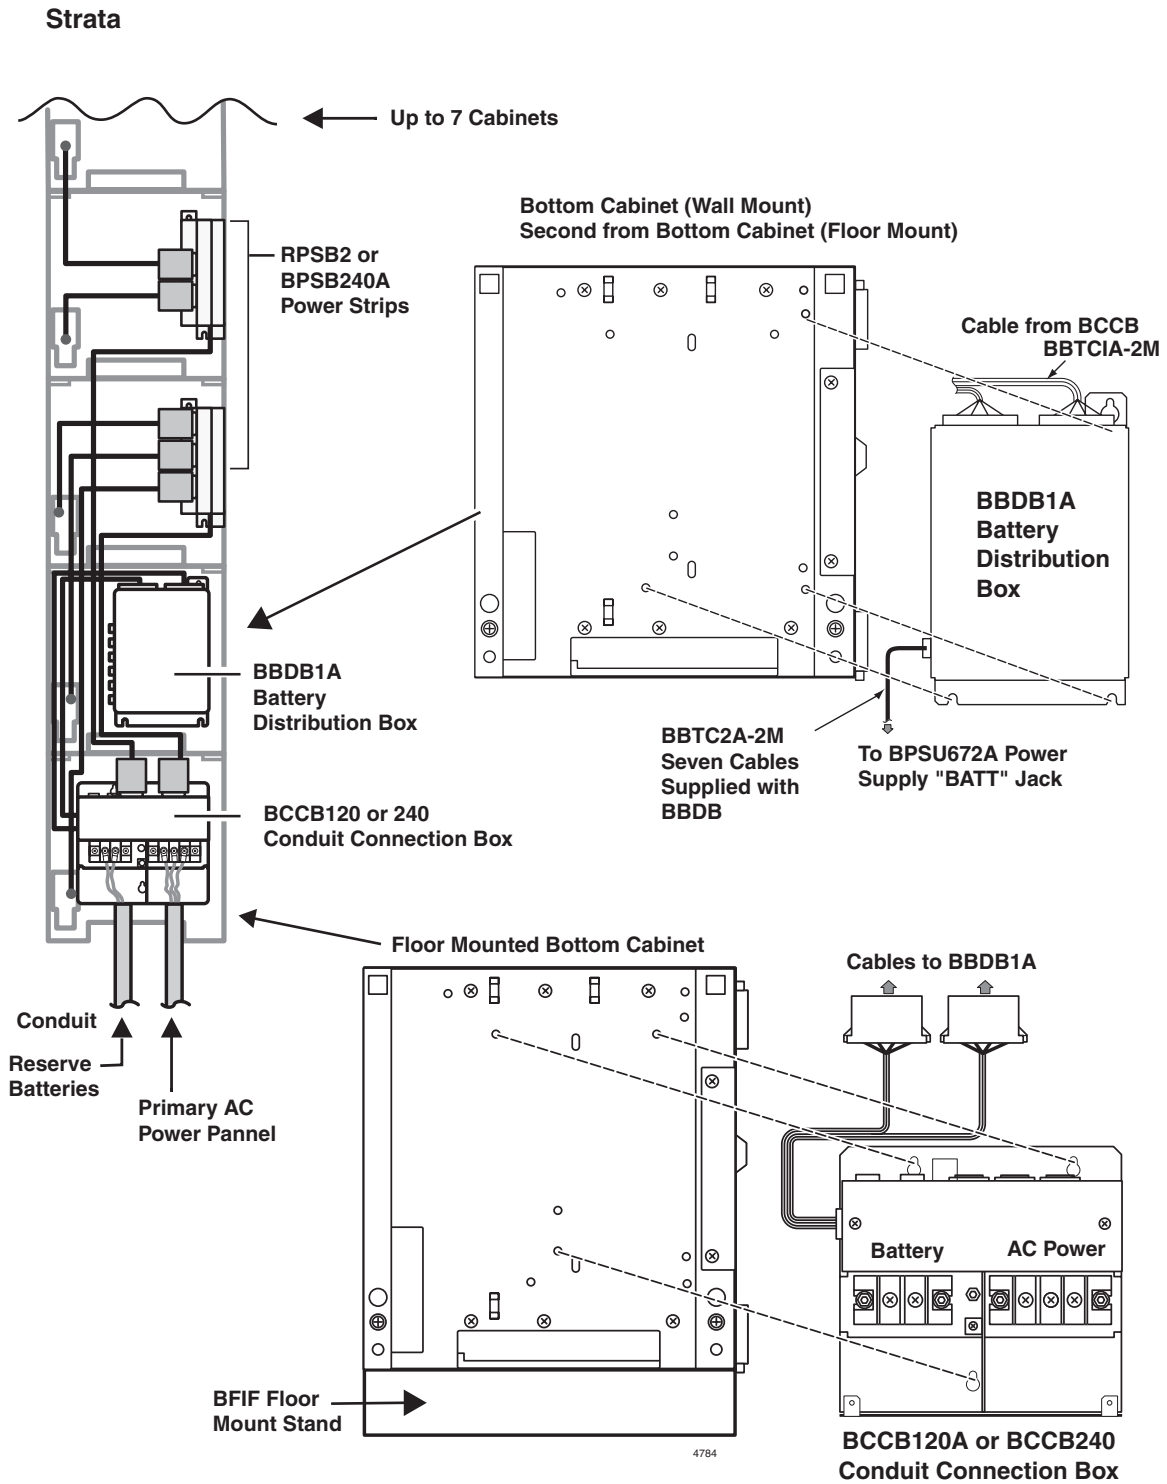

Figure 4-24 Battery Distribution and Conduit Connection Box Installation
1. A BCCB120 conduit connection box must be installed and wired by a certified electrician per the local electrical code (see Figure 4-24).
1. Make sure that the Conduit Connection Box is installed on the bottom base cabinet (see Figure 4-24). The box can be installed by the regular system installer.
3. Install the Battery Distribution Box on the second cabinet (the cabinet directly above the bottom cabinet), see Figure 4-24.